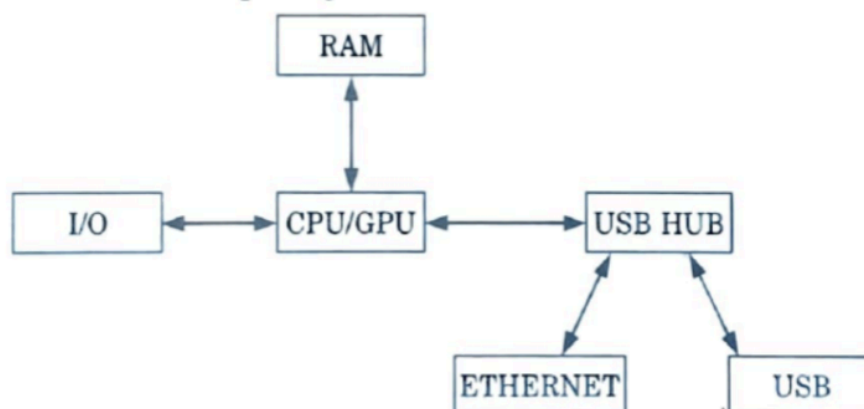

Fig. 2.20.1.
- **Architecture of Raspberry Pi Board (from Fig. 2.20.1, Page 14, Doc: Unit 2):**